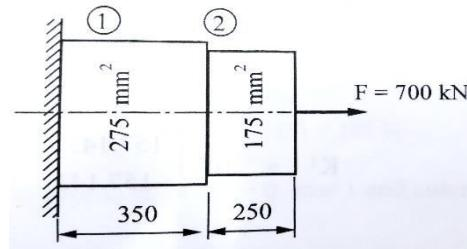

Figure 1
**(c)** Consider the bar as shown in figure 1 below. find: a) Nodal Displacement, using global stiffness matrix. b) Elemental Stresses. c) Support Reaction. 07